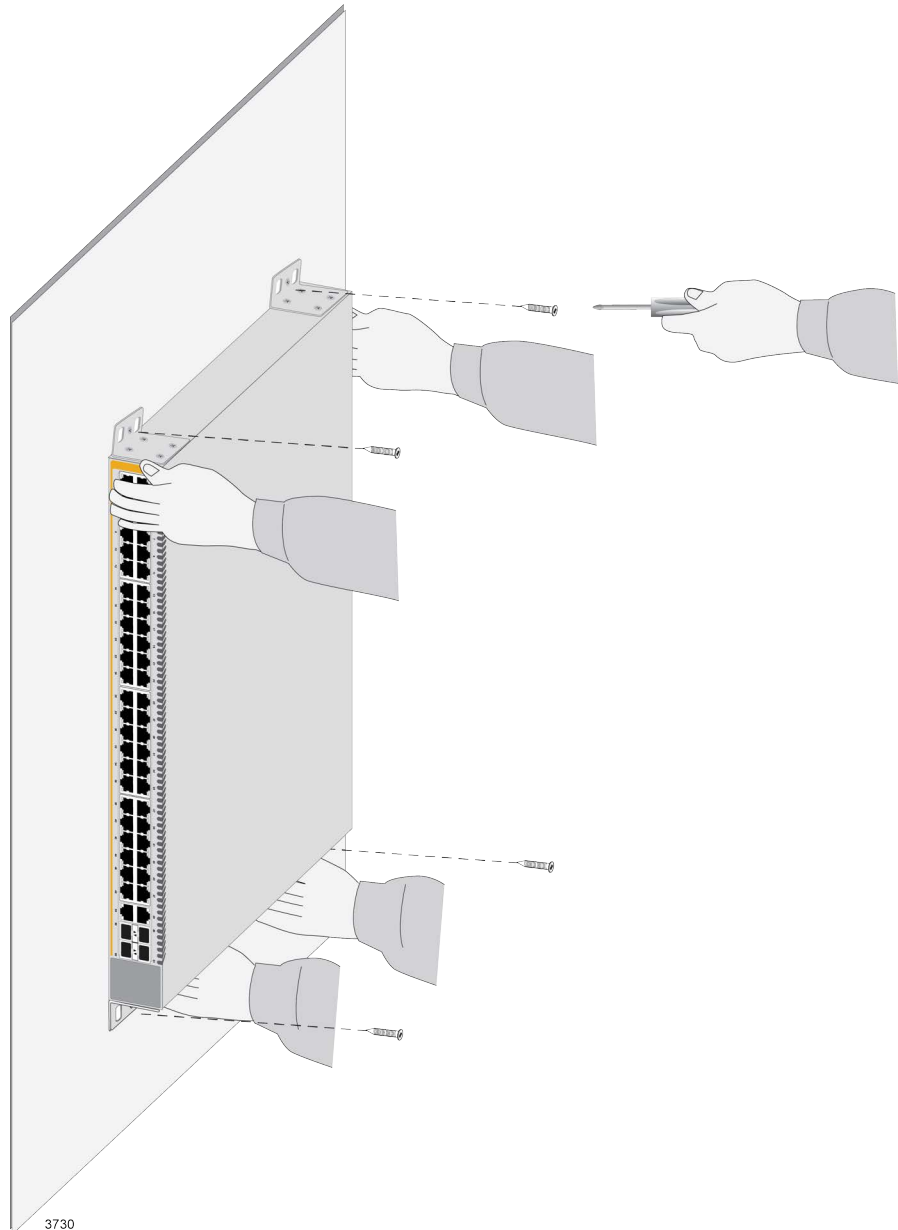

Figure 65. Installing the Switch on a Concrete Wall
7. Have two people hold the switch at the selected wall location while you secure it with the four provided screws. Refer to Figure 65.